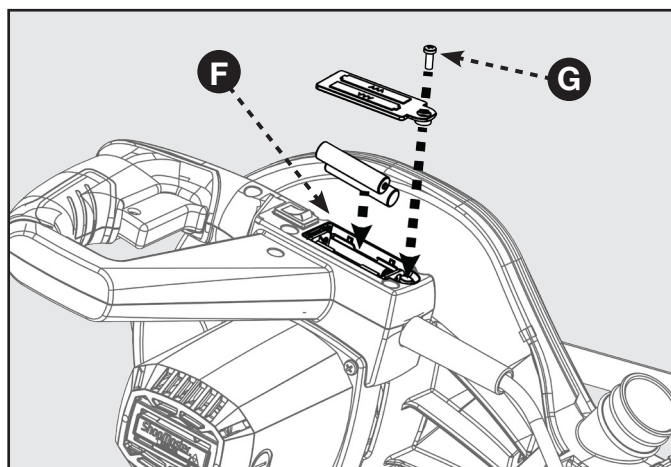

FIGURE 8
1. The battery compartment (F) is located in the control arm on the rear of the saw. See Figure 8.
2. Using the Phillips end of the supplied blade wrench, remove the screw (G) securing the compartment cover and lift off the cover.